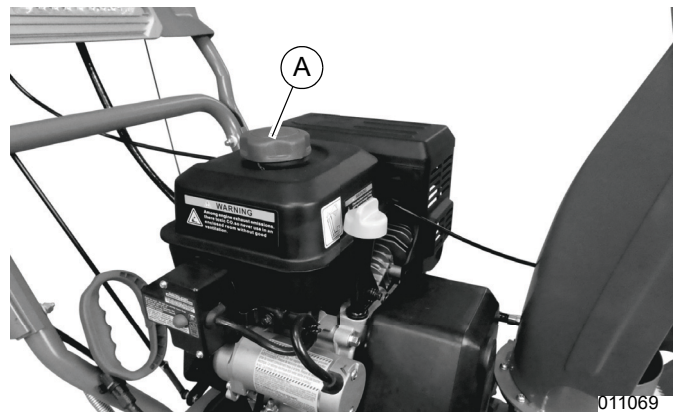

Figure 2-22. Fuel Fill Cap
- See **Figure 2-22**. Remove fuel fill cap (A).